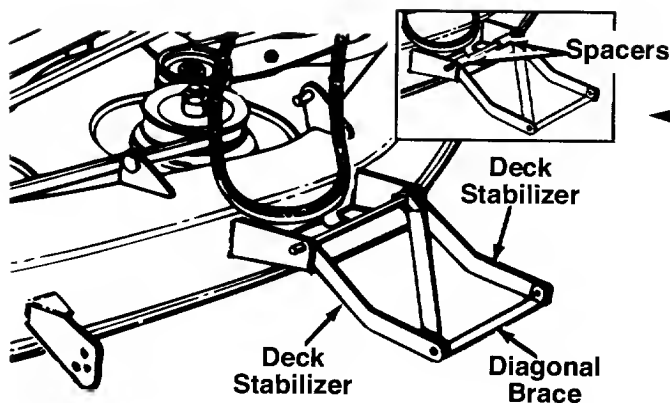

FIGURE 5.
3. The two deck stabilizers and the diagonal brace which are attached to the front of the deck are folded back over the deck for shipping purposes. Unfold them at this time. See figure 5.
NOTE: If the hardware for attaching the deck is assembled to your deck, remove the hairpin clips and flat washers from each deck bracket. Remove the spacers from the rod which is through the deck stabilizer by removing the hairpin clips and sliding out the rod. Replace the rod and hairpin clips. See figure 5, inset.